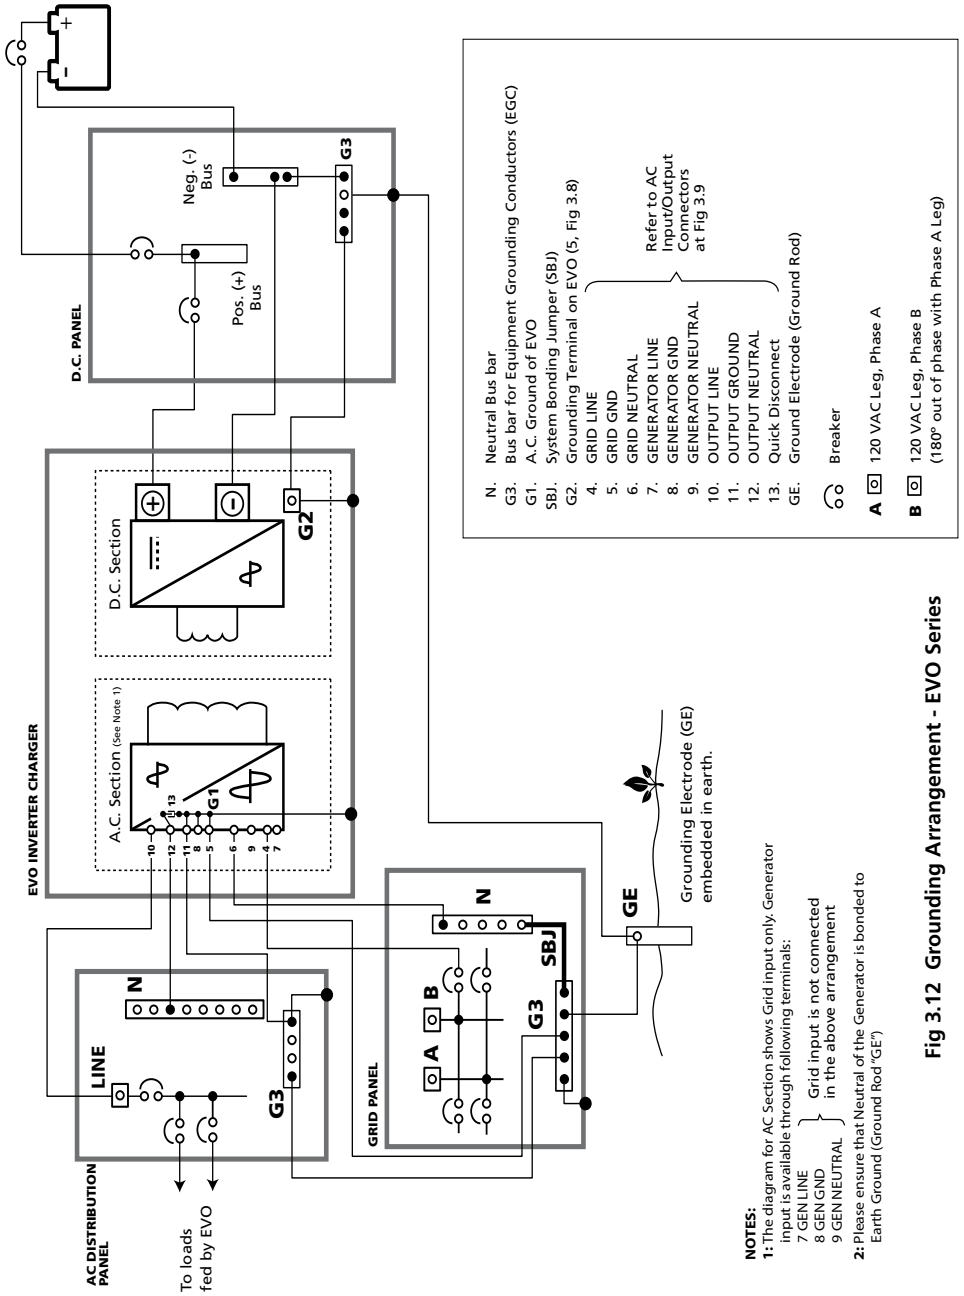

Fig 3.12 Grounding Arrangement - EVO Series
Schematic at Fig. 3.12 illustrates the grounding arrangement of EVO Series. Internally, EVO consists of a DC Section and an AC Section that are isolated through a transformer. Both these sections are required to be grounded appropriately.
3.13 DC SIDE GROUNDING (SEE FIG. 3.12)
A DC Panel, as shown in Fig. 3.12, is normally provided to connect the batteries and distribute DC power to the inverter and to the other DC loads.
3.14 AC SIDE GROUNDING (PLEASE SEE FIG 3.12)
- The AC Input Grounds {GEN GND (8), GRID GND (5)} and AC Output Ground {OUTPUT GND (11)}, are internally bonded to the chassis of the inverter (G1)
- The Equipment Grounding Conductors (part of the Grid/Generator input wiring) from Bus Bars (G3) for the Equipment Grounding Conductors in the Grid and Generator Input Panels are connected to the AC input Ground terminals in {GRID GND (5), GEN GND (8)}.
- The AC output Ground terminal of the EVO {OUTPUT GND (11)} is connected to the Equipment Grounding Conductor of the AC output wire which then connects to the Bus Bar (G3) for the Equipment Grounding Conductors of the AC Distribution Panel.
- The Bus Bar (G3) for Equipment Grounding Conductors of the AC Distribution Panel is connected to the Bus Bar for the Equipment Grounding Conductors (G3) of the Grid/Generator Input Panel, which in turn is connected to the Ground Rod or the Grounding Electrode (GE). **Thus, in keeping with the NEC requirements, the AC Grounds of EVO and the AC Distribution Panel will be bonded to the Earth Ground only at one single point at the Grid/Generator Panel feeding the EVO.**